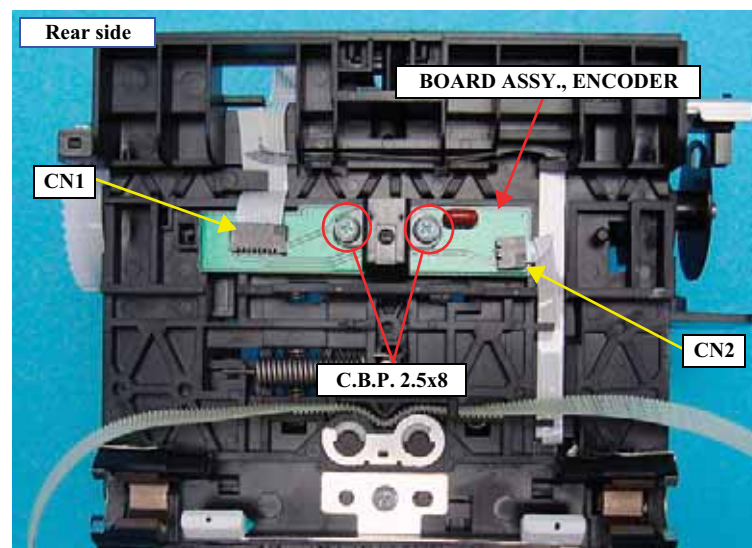

Figure 4-112. Removing the BOARD ASSY., ENCODER
3. Remove the all FFCs on the BOARD ASSY., ENCODER. *See Figure 4-112.*
4. Remove the two screws that secure the BOARD ASSY., ENCODER and remove it. *See Figure 4-112.*